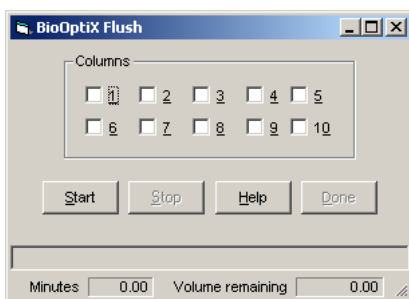

Figure 4-1 Flush window
3. Select the Tools>Pump Flush menu command. This opens the BioOptix 10 flush window (Figure 4-1).